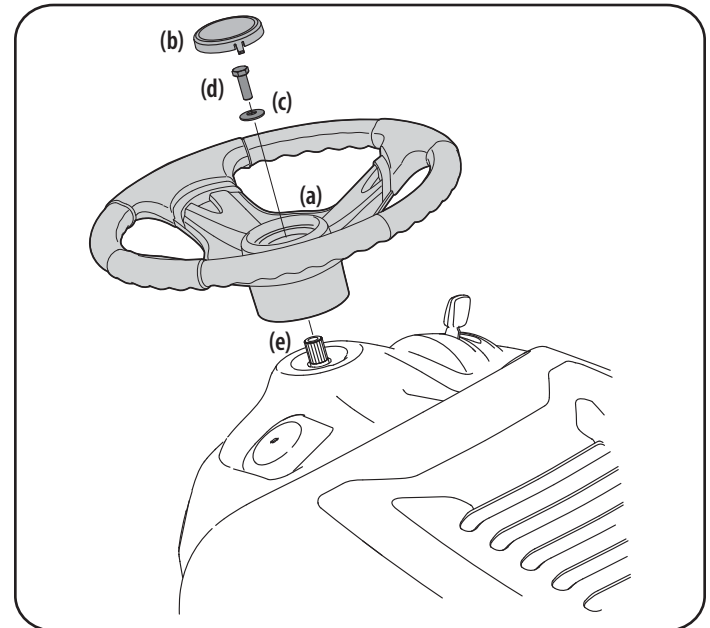

Figure 5
1. If the steering wheel (a) for your tractor did not come attached, the hardware for attaching it has been packed within the steering wheel (a), beneath the steering wheel cap (b). Carefully pry OFF the steering wheel cap (b) and remove the cupped washer (c) and hex bolt (d). See Figure 5.
2. With the wheels of the tractor pointing straight forward, place the steering wheel (a) over the steering shaft (e). See Figure 5.
3. Place the cupped washer (c) -- cupped side down -- over the steering wheel (a) and secure with the hex bolt (d). See Figure 5.
4. Place the steering wheel cap (b) over the center of the steering wheel (a) and push downward until it "clicks" into place. See Figure 5.